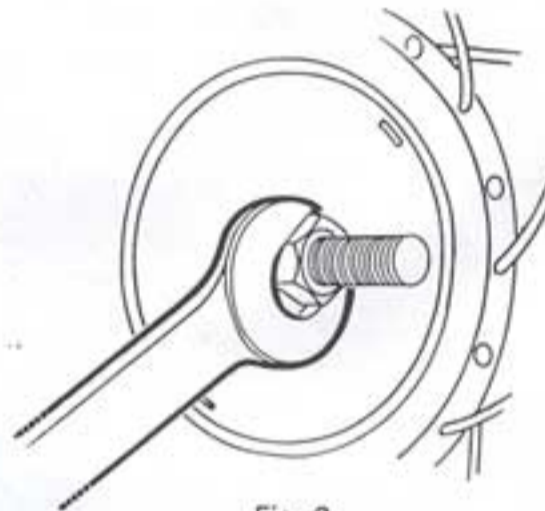

Fig. 2
- Remove the cone lock nut (17mm wrench) and keyed washer. Remove the cone (fig. 2).